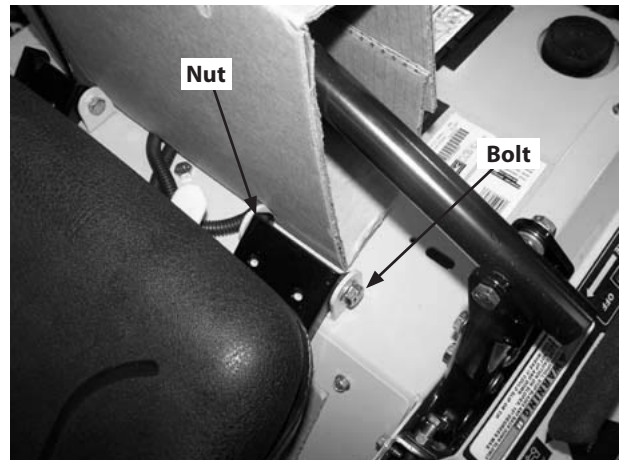

**Figure 3-2**
2. Remove the two shoulder bolts, nuts and spacers securing the seat as shown in Fig. 3-2.